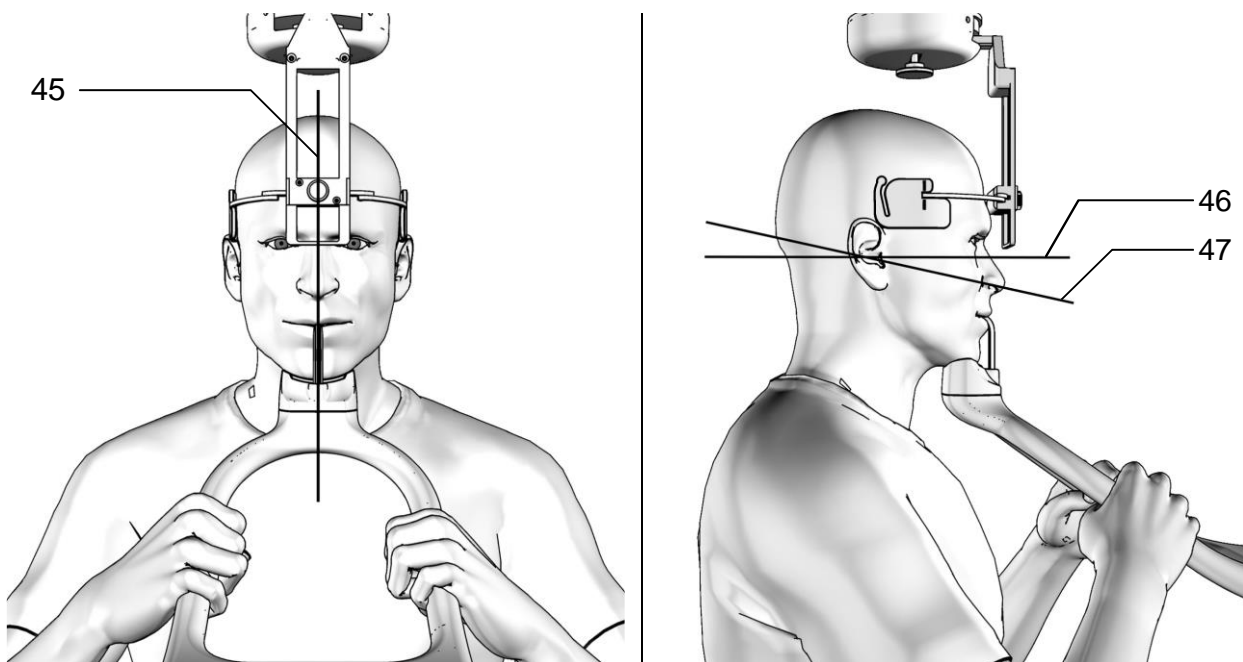
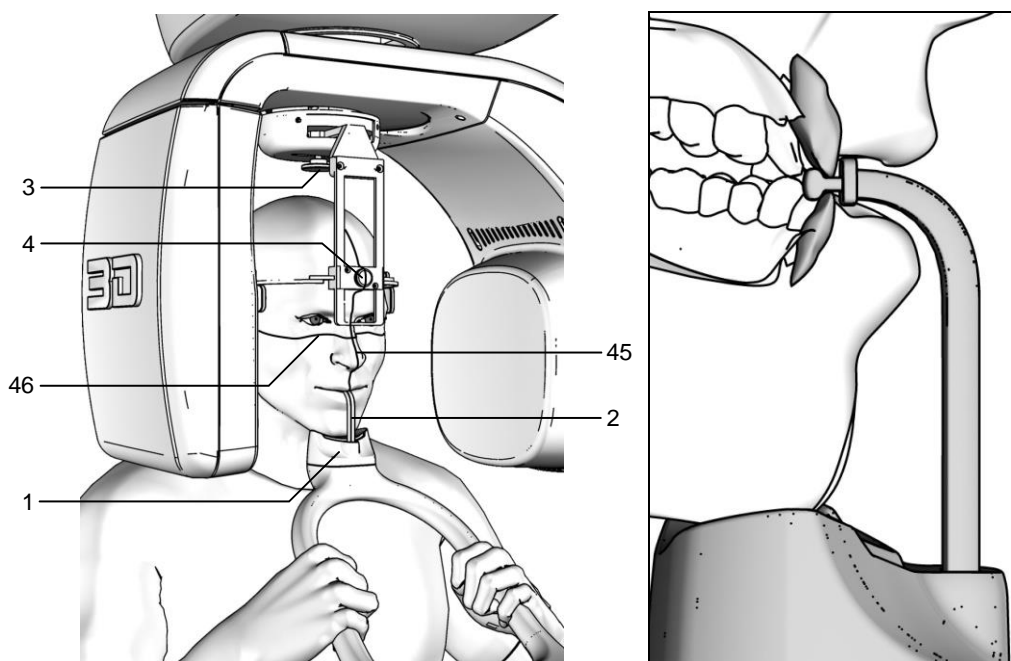

Figure 16
Figure 17 - Panoramic positioning
3. Place the patient in a standing position at the chin support. Raise/lower the column with keys (13)/(14) until the chin support is aligned with the patient's chin.
4. Verify that the temple clamp device is in the central position (Figure 13), and if necessary move it using the appropriate control on the top of the support (Figure 17).
5. Place the patient in the temple clamp by placing the chin on the surface of the relevant support; the hands should rest on the front handgrips; the patient must bite the reference mark of the bite with his/her incisors (Figure 17). In case of edentulous patients, he/she must rest the chin against the chin stop of the edentulous chin support for edentulous.
8. Press the "Centering devices ON" key (12). Two laser beams illuminate the line of the median sagittal plane and the horizontal line for the reference of the Frankfurt plane (Figure 16). Position the patient's head in such a way as to ensure that the luminous beams fall in correspondence with the respective anatomical references (Figure 17). The luminous beam of the Frankfurt plane can be adjusted according to the patient's height; this adjustment is achieved by adjusting the laser block on the side of the mirror.
9. Place the temple clamp in contact with the patient's head by means of the appropriate knob (Figure 17).
11. Press the "Patient entry" key >O< (5) to confirm the parameters. The luminous centering devices switch off and the rotating arm goes to its examination start position. Once alignment has been completed, the following message will be displayed: